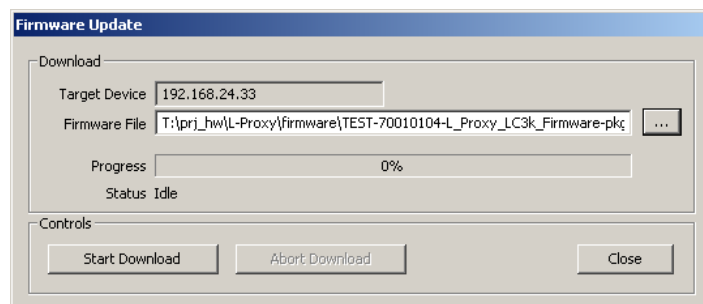

Figure 149: Firmware Update dialog of the L-Proxy Configurator.
6. This opens the Firmware Update dialog as shown in Figure 149. Click on the button "...".